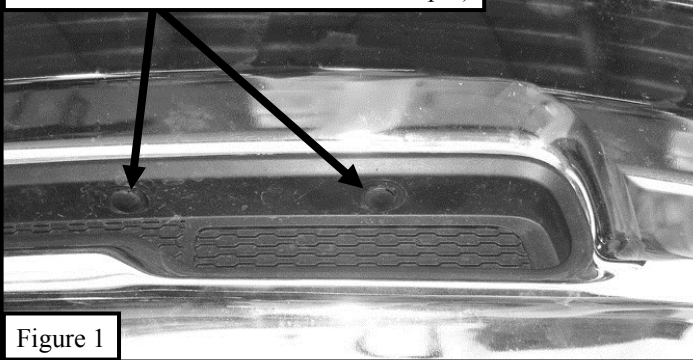
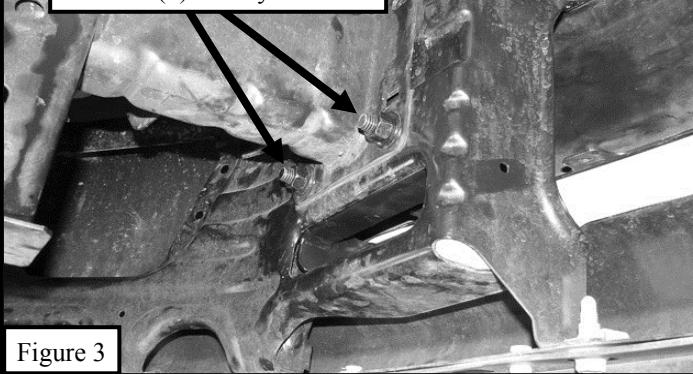

Figure 1
Figure 3
- On vehicles without factory tow hooks:** For 2009 - 2012 vehicles, remove the plastic fill panel on the front bumper by removing the 2-piece plastic clips at the top of the panel. **See Figure 1.** **NOTE:** Use a flat-blade screwdriver to first pop the center pin out to release the clip. For 2013+ vehicles remove the two plastic bumper inserts that are attached with (4) M6 fasteners from the inside of the bumper. Next, from behind the driver side of the front bumper, remove the (2) hex nuts on the bottom of the bumper bracket securing the bumper to the frame. **See Figure 3.**